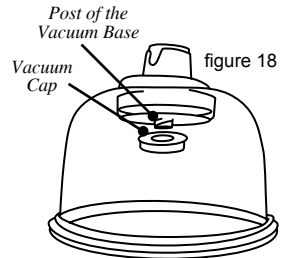

figure 18
- Be sure the Vacuum Cap is securely fastened onto the post of the Vacuum Base (figure 18).